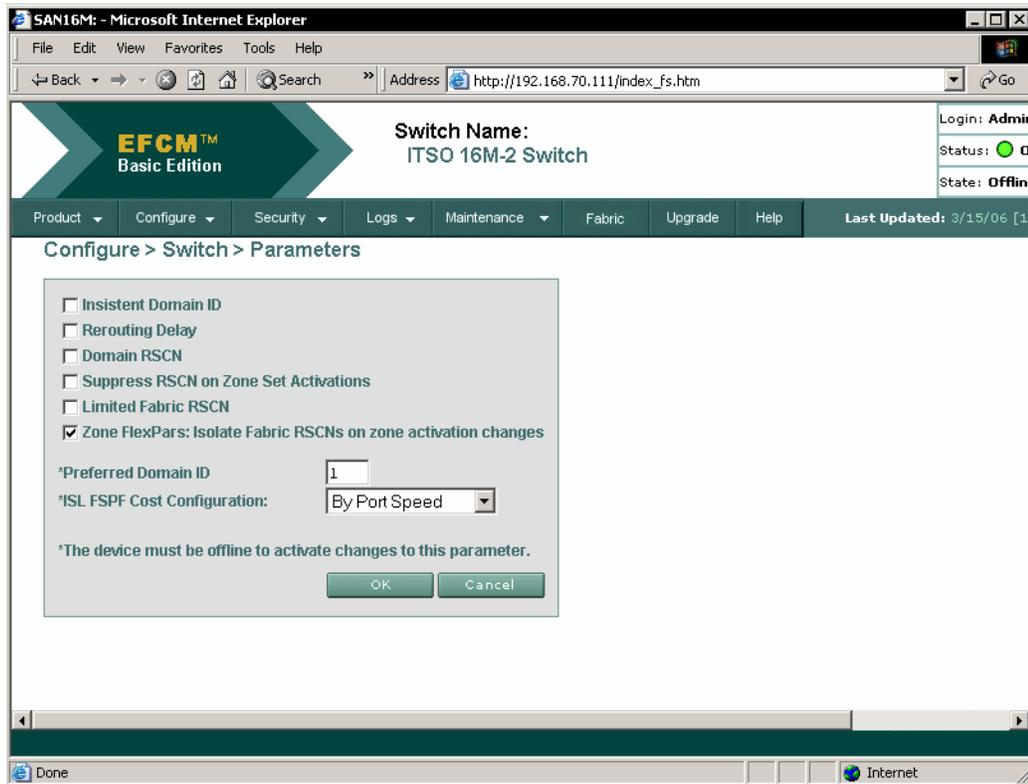

Figure 33 EFCM Basic - switch parameters
- Once the switch is offline click **Configure**, then select **Switch** and **Parameters** to display the Parameters view, shown in Figure 33.